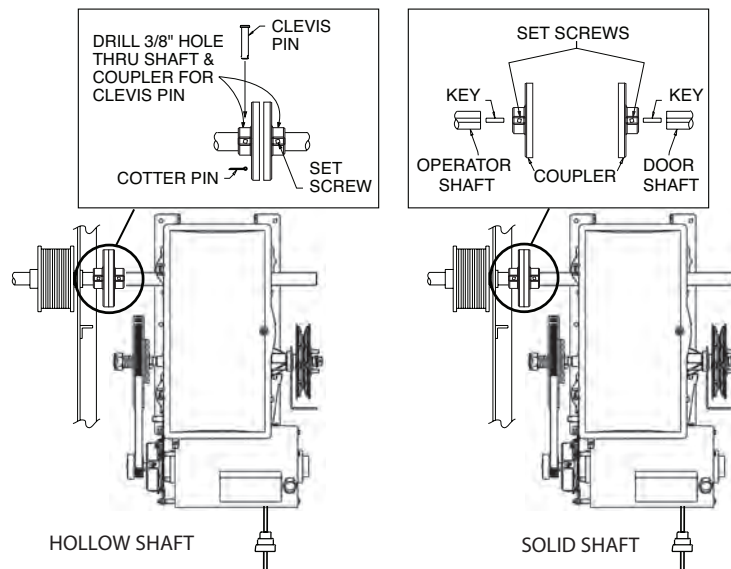

Figure 5
- 1) Use coupling as a drill guide and drill a 3/8" diameter hole through door shaft and other side of coupling. **Fig. 5.** (Right-hand mount shown, Left mount is mirror image.)